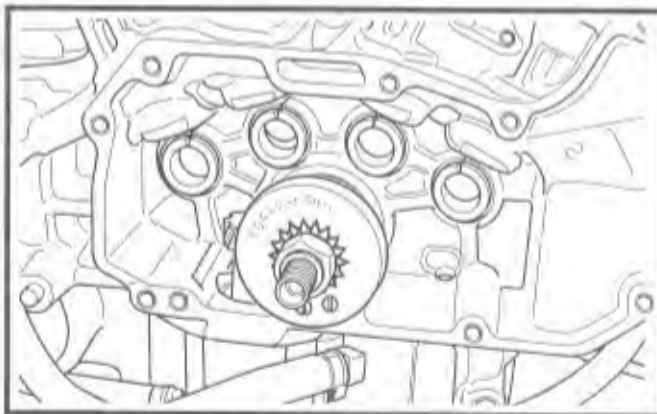

Figure 3-71. Crankshaft Locking Tool
3. See Figure 3-71. Install CRANKSHAFT LOCKING TOOL (Part No. HD-41506) over pinion shaft. Install nut to pinion shaft, tightening to 35-45 ft-lbs (47-61 Nm) torque.